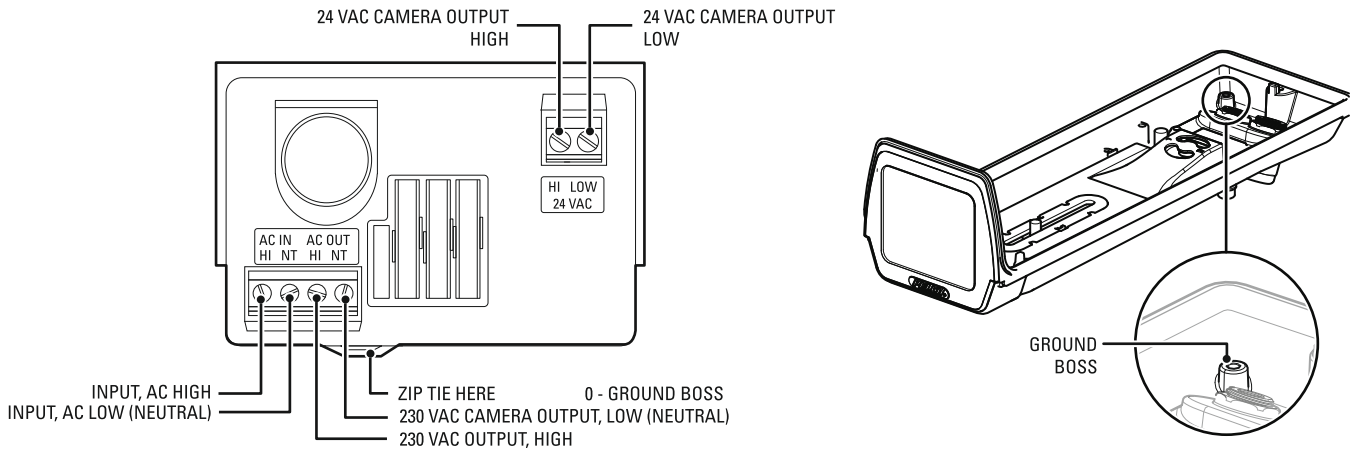

Figure 6.
- If ground connection is required:** Connect the ground wire that is in front of the PC board to the ground boss and screw located on the bottom of the enclosure. Refer to Figure 6 on page 11 for an illustration of the ground boss location. For EH16-3, pass the zip tie (supplied) through the hole in the PC board cover.